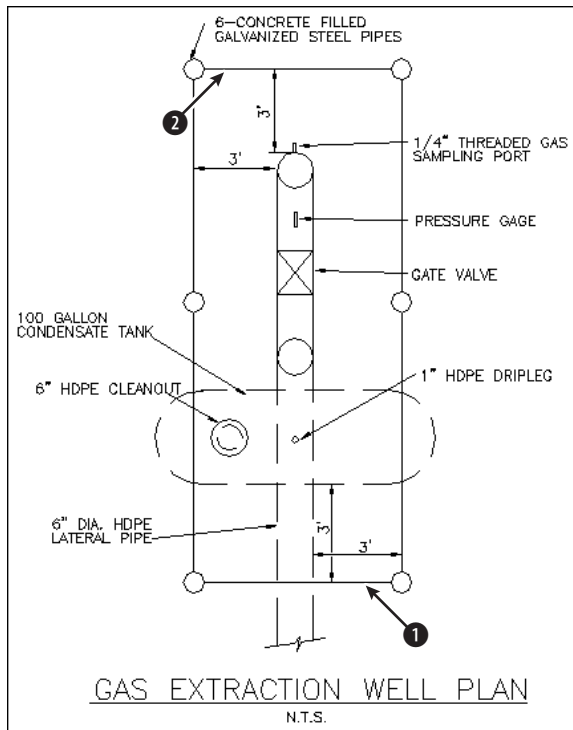

Figure 9-3: The gas-extraction well schematic
2. Save the file as `ab09-01.dwg` in your `AutoCAD Bible` folder. This drawing is a schematic of a gas extraction well, shown in Figure 9-3.
3. To erase the line at point ❶ of Figure 9-3, move the mouse until the pickbox at the intersection of the crosshairs is anywhere over the line and click. Notice that the line is dashed and displays grips.
6. At the `Select objects:` prompt, pick the line at point ❷ in Figure 9-3.